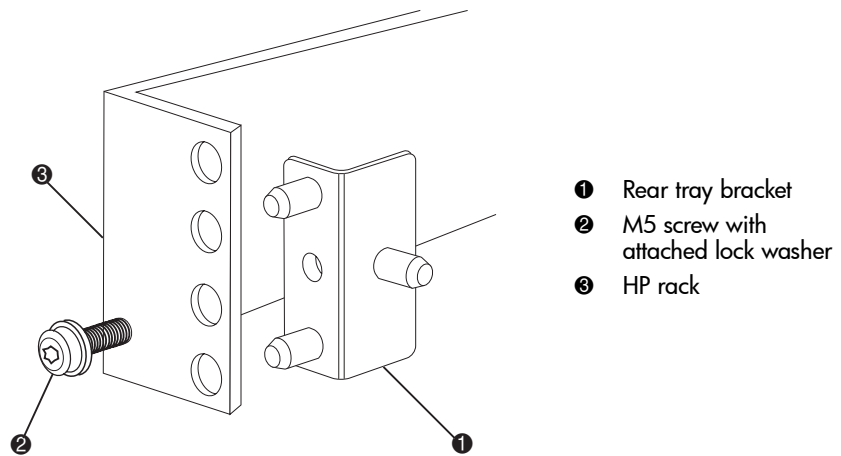

Figure 18: Attaching a rear rail tray bracket
4. Position and attach both rear brackets, as shown in Figure 18: